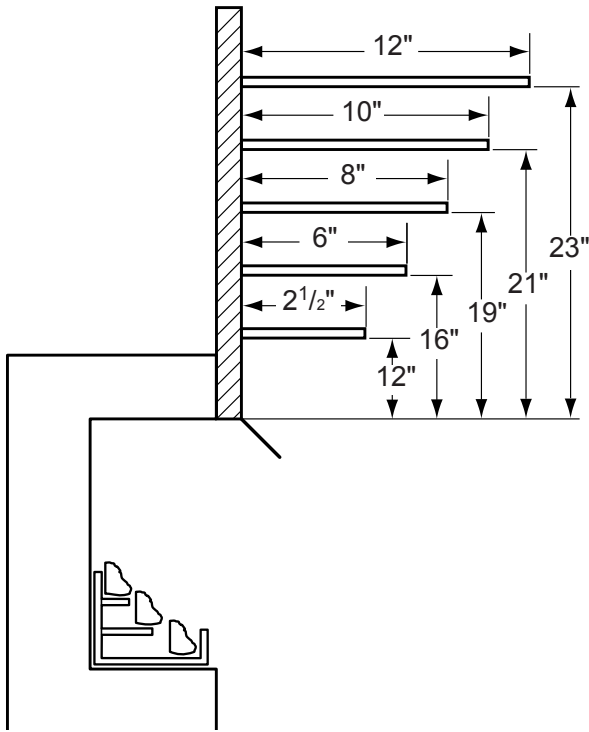
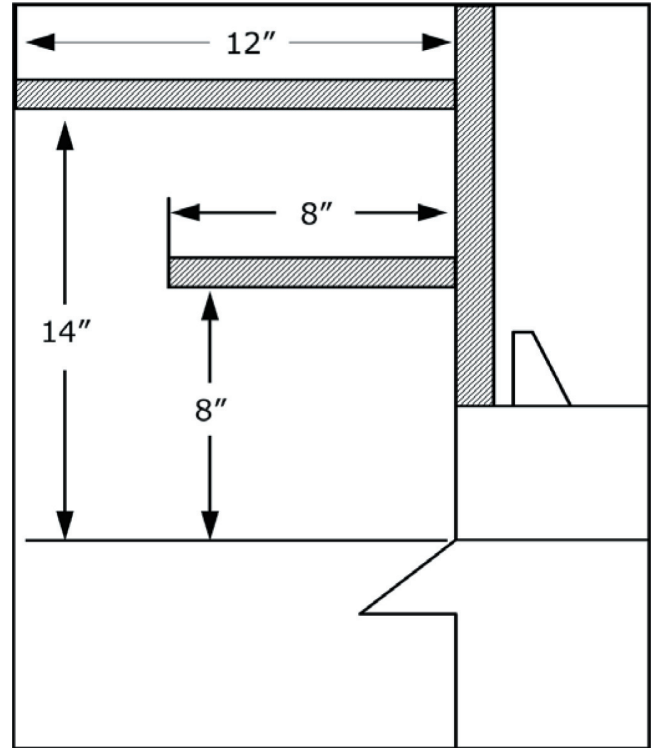

Figure 7A - Mantel Clearances
Figure 7B - Mantel Clearances for Wide Profile Canopy Only.
5. **Mantel clearances:** The canopy supplied with the unit must be installed. If a combustible mantel is installed, it must meet the clearance requirements as shown in *Figure 7A*. However, if lower mantel height is desired, see *page 15* and *Figure 7B*.